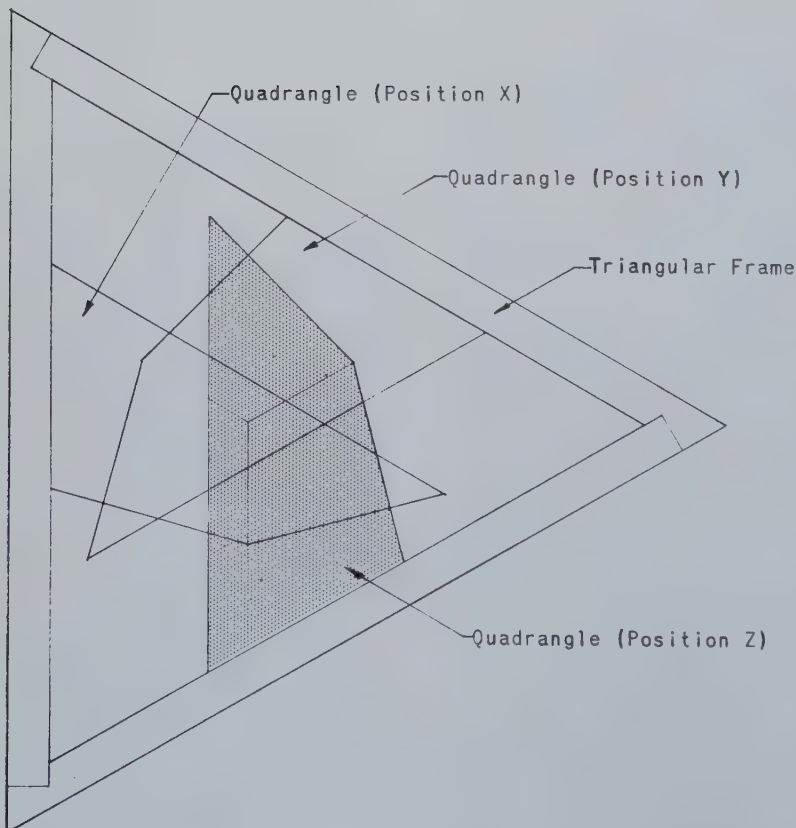

FIGURE 5. Device for orthographic projection.
IN FEBRUARY of 1959, a device was evolved which had none of these difficulties. It consisted of two parts of practical simplicity: (1) a quadrangle, and (2) an equilateral triangular frame. The quadrangle can be manufactured by the same process as a conventional drafting triangle. The interior angles of the quadrangle are 60, 45, 150 and 105 degrees. The triangular frame can be one-piece or three demountable pieces; see Figure 5.